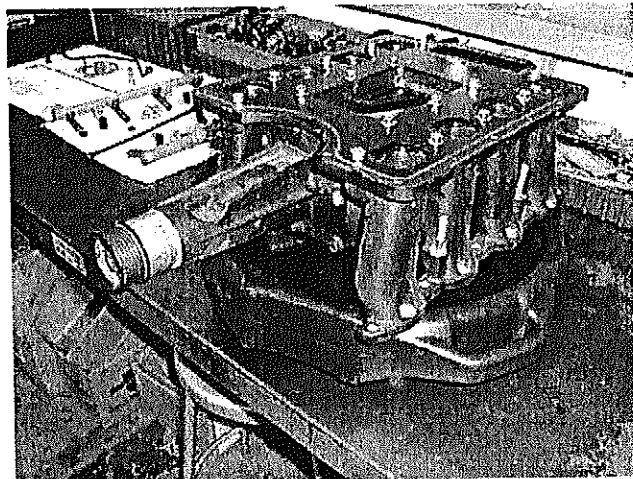

Figure 18
4. Place the supercharger plenum over a large drain pan on a flat, secure surface (Figure 18).